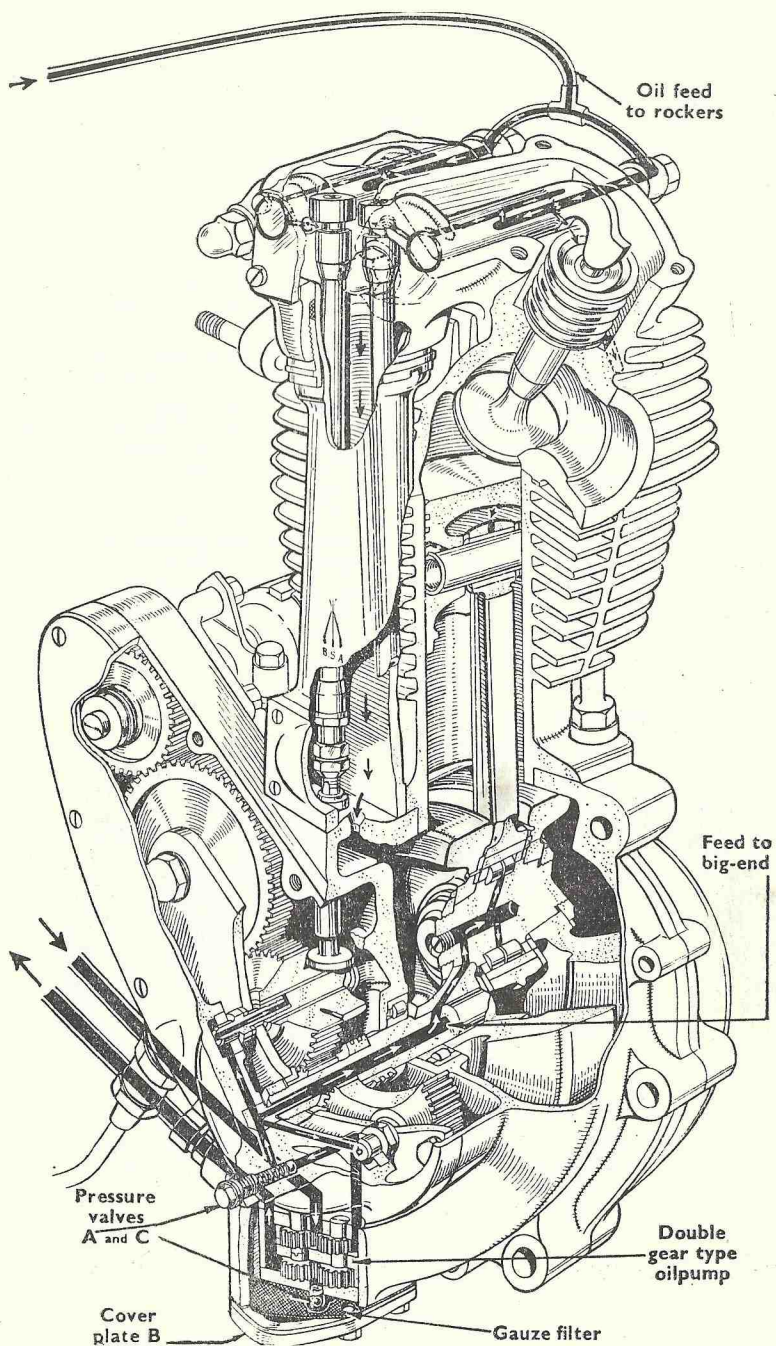

Fig. 3. Lubrication System.
The lubrication system is of the dry sump type and is operated by a double gear pump situated in the bottom of the crankcase on the right-hand side (see Fig. 3). The oil tank capacity is $5\frac{1}{2}$ pints. Oil is drawn from the oil tank, through the wire mesh filter illustrated, to the supply pump (top set of gears). It is then pumped past the non-return valve (A) to the camshaft spindles and along the hollow mainshaft to the big end.